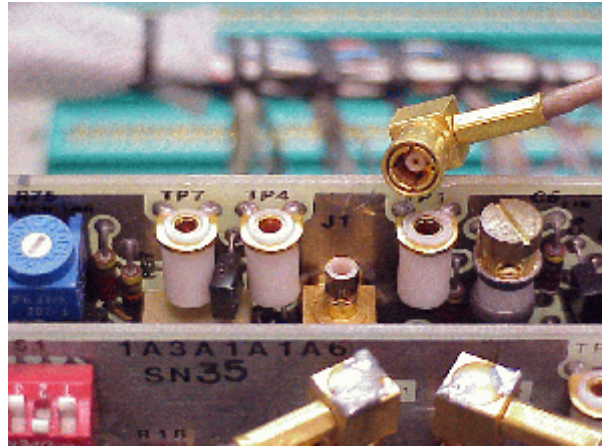

Figure 5
17. On the A7 board, disconnect the 10.7 MHz IF cable from J1 (figure 5).